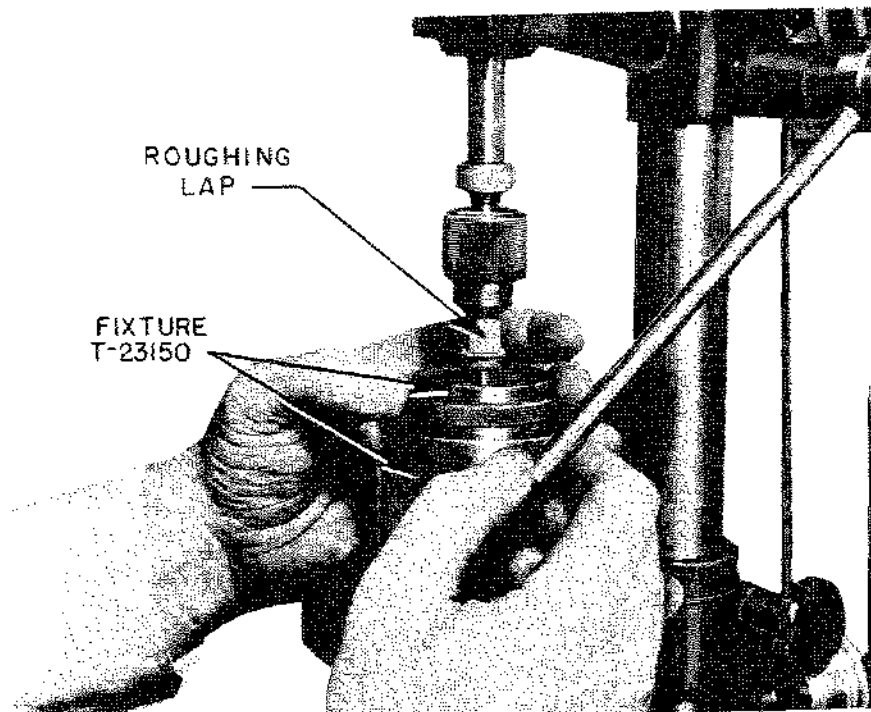

FIGURE 15 METHOD OF LAPPING PIVOTS
8. Place the roughing lap in the chuck, and adjust the machined surface of the drill press so that when the lap touches the top of the pivot as it rests in fixture T-23150 on the machined surface of the drill press, the drill press lever is approximately 30 degrees below the horizontal. See Fig. 15.